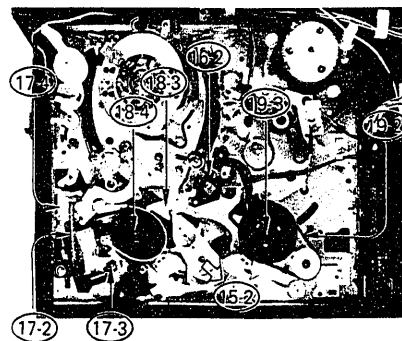

Fig. 31 Reel Drive Idler, Tension Band/Tension Arm, Reel Disk
16. Reel Drive Idler (Fig. 31)
- 1) Remove the cassette holder. (Refer to item 4-1.)
17. End Lamp (Fig. 31)
- 1) Remove the cassette holder (Refer to item 4-1)
18. Tension Band/Tension Arm (Fig. 31)
- 1) Remove the cassette holder (Refer to item 4-1.)
19. Supply Reel Disk (Fig. 31)
20. Take-up Reel Disk (Fig. 31)